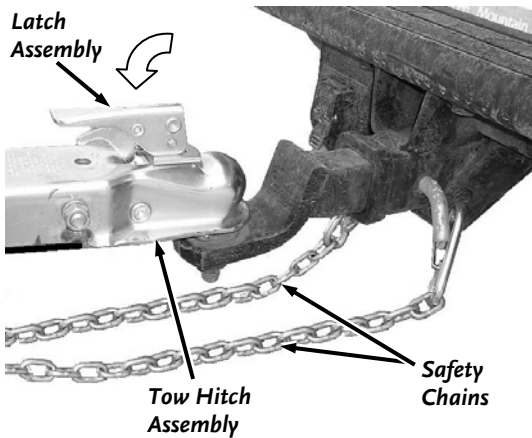

Figure 4
1. Close the Latch Assembly on the Tow Hitch Assembly to lock the Tow Hitch Assembly onto the Tow Ball (**Figure 4**). Attach the towing Safety Chains to the Tow Vehicle ensuring there is enough slack for turning.